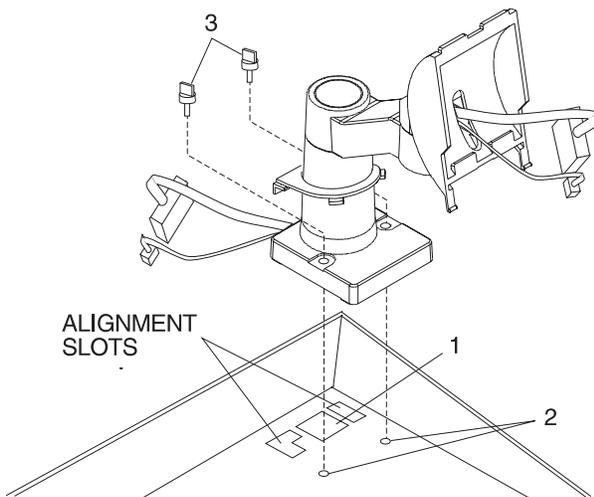

Figure 3-25. Integration Kit Removal From Terminal
- 2 Remove the integration kit from the terminal. See Figure 3-25 on page 3-21.